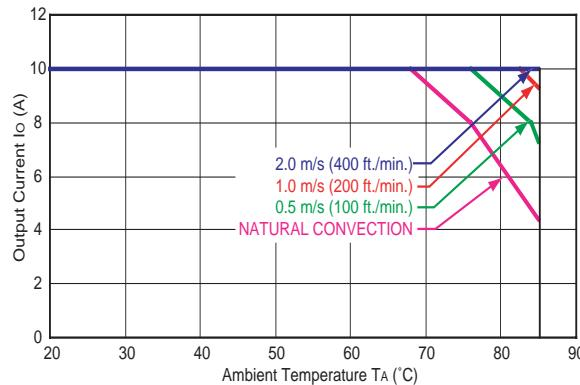

Figure 44. Derating Curves for HW010A0F1 (VO = 3.3 V) in Transverse Orientation (VI = 48 Vdc).
Increasing airflow over the module enhances the heat transfer via convection. Figures 44—48 show the maximum current that can be delivered by various modules versus local ambient temperature (TA) for natural convection through 2 m/s (400 ft./min.).
Systems in which these power modules may be used typically generate natural convection airflow rates of  $0.3 \text{ ms}^{-1}$  (60 ft./min.) due to other heat-dissipating components in the system. Therefore, the natural convection condition represents airflow rates of up to  $0.3 \text{ ms}^{-1}$  (60 ft./min.). Use of Figure 44 is shown in the following example.
Determine airflow (v) (Use Figure 44.):